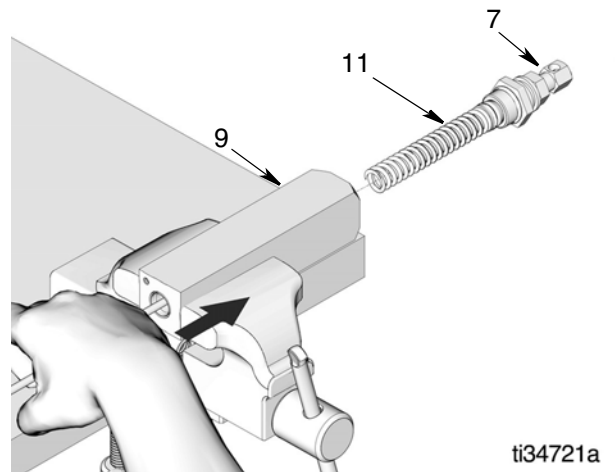

FIG. 6
11. Remove displacement piston (7) and spring (11) assembly from injector body (9) (FIG. 6).